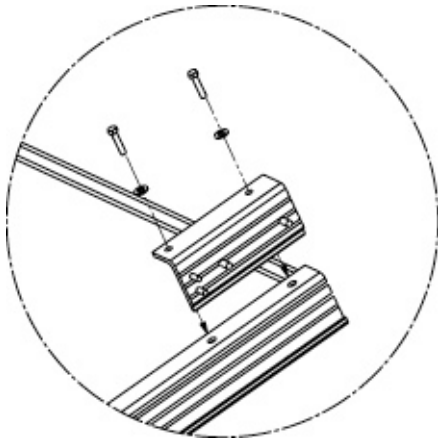
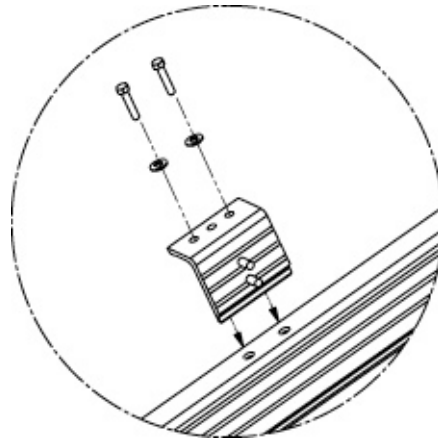
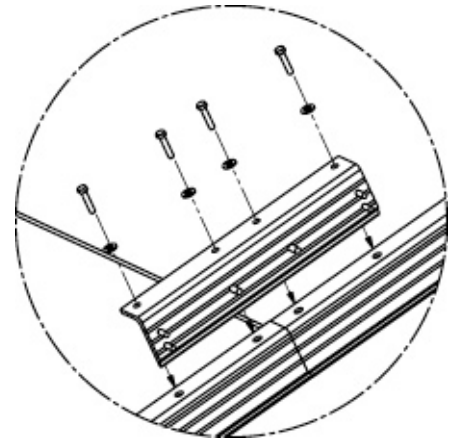

FIG. 13a
FIG. 13b
FIG. 13c
- 2.2 There are three different bracket types that are used to assemble ramp sections (see FIG. 13a, FIG. 13b and FIG. 13c). All three bracket types are fit into the side rail of the ramp section and are best installed with the ramp section placed upside down using the 5/16-18" x 1.5" hex bolts and washers. **Note:** Take care that the narrow edge of the bracket engages the trough formed in the ramp section side rail as well as aligns with the threaded inserts preinstalled in the ramp section side rails. Use 1/2" wrench or socket to secure fasteners.
- 2.2.1 End support assembly bracket (FIG. 13a): These brackets come in a left and right pair and attach to the upper and lower end of a ramp run to support the ends of the ramp run when combined with support legs. These brackets also provide attachment points for the guardrails.
- 2.2.2 Guard brackets (FIG. 13b): This pair of brackets provides an attachment point for the guardrails at the mid-point of a ramp section.
- 2.2.3 Center support assembly bracket (FIG. 13c): This pair of brackets joins ramp sections together and is required where ramp sections meet in a ramp run. They support the ramp at this point when combined with support legs and provide attachment points for the guardrails.
- 2.3.2 Install end support assembly brackets (FIG. 13a) at both ends of the ramp section. This will require two pairs of end support brackets. **Note:** Make sure that the two larger diameter studs protruding from the brackets are positioned toward the outer end of the ramp section.
- 2.3.3 Install one pair of guard brackets (FIG. 13b) at mid-point of ramp section in similar manner.
- 2.4.2 Install one pair of center support brackets (FIG. 13c) at each junction of two ramp sections. **Note:** It is critical that the center support bracket be positioned equally with respect to threaded inserts in the ramp sections to avoid problems aligning the guards and handrails later. This may require measuring. There is a centering mark on the support bracket to assist with this process.
- 2.4.3 Install end support assembly brackets (FIG. 13a) at both ends of the ramp run (this will require two pairs of end support brackets). **Note:** Make sure that the two larger diameter studs protruding from the brackets are positioned toward the outer end of the ramp section.
- 2.4.4 Install one pair of guard brackets (FIG. 13b) at the mid-point of each ramp section making up the run.
- 2.8.2 Install (1) pair guard brackets (FIG 13b) at mid point of ramp section and either an end support assembly, if the starter section is the only ramp in the run, or a center support assembly if connecting to another ramp section as described in previous steps.